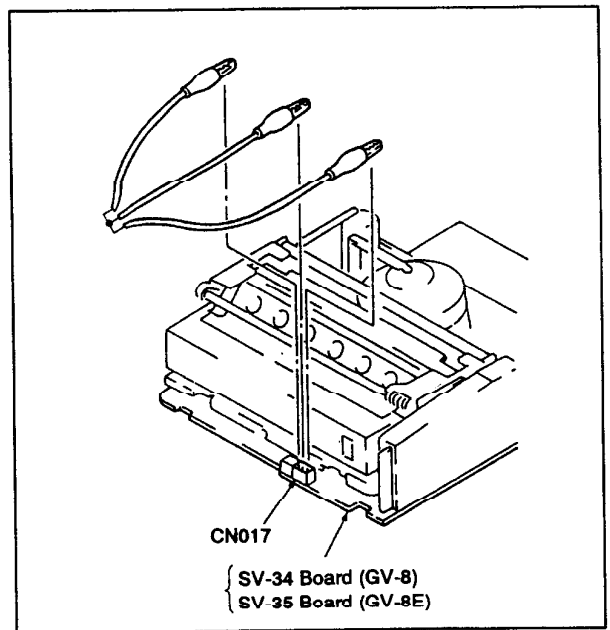

Fig. 4-1.
{ SV-34 board (GV-8) } to pin ② of it. (See Fig. 4-1)